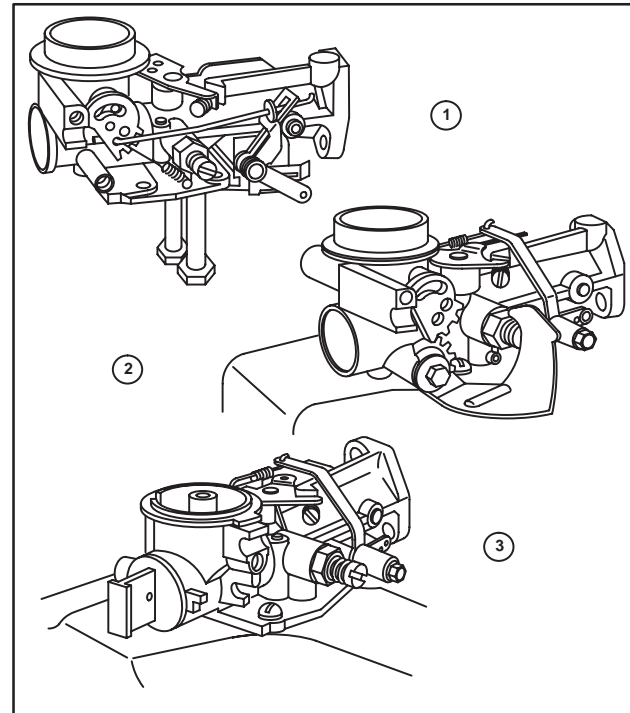

Fig. 59
These Pulsa-Jet carburetors all have a combined idle and main jet adjustment needle, integral fuel pump and have either manual rotary (2) or slide choke in manual (3), remote or Choke-A-Matic® (1), Fig. 59.